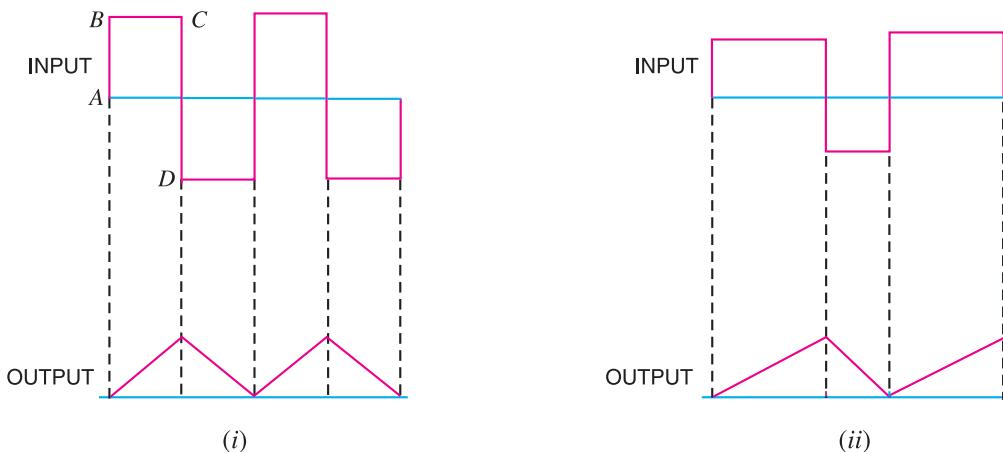

Fig. 18.24
- (i) **When input is a square wave.** When the input fed to an integrating circuit is a square wave, the output will be a triangular wave as shown in Fig. 18.24 (i). As integration means summation, therefore, output from an integrating circuit will be the sum of all the input waves at any instant. This sum is zero at A and goes on increasing till it becomes maximum at C . After this, the summation goes on decreasing to the onset of negative movement CD of the input.
(ii) When input is rectangular wave. When the input fed to an integrating circuit is a rectangular wave, the output will be a triangular wave as shown in Fig. 18.24 (ii).